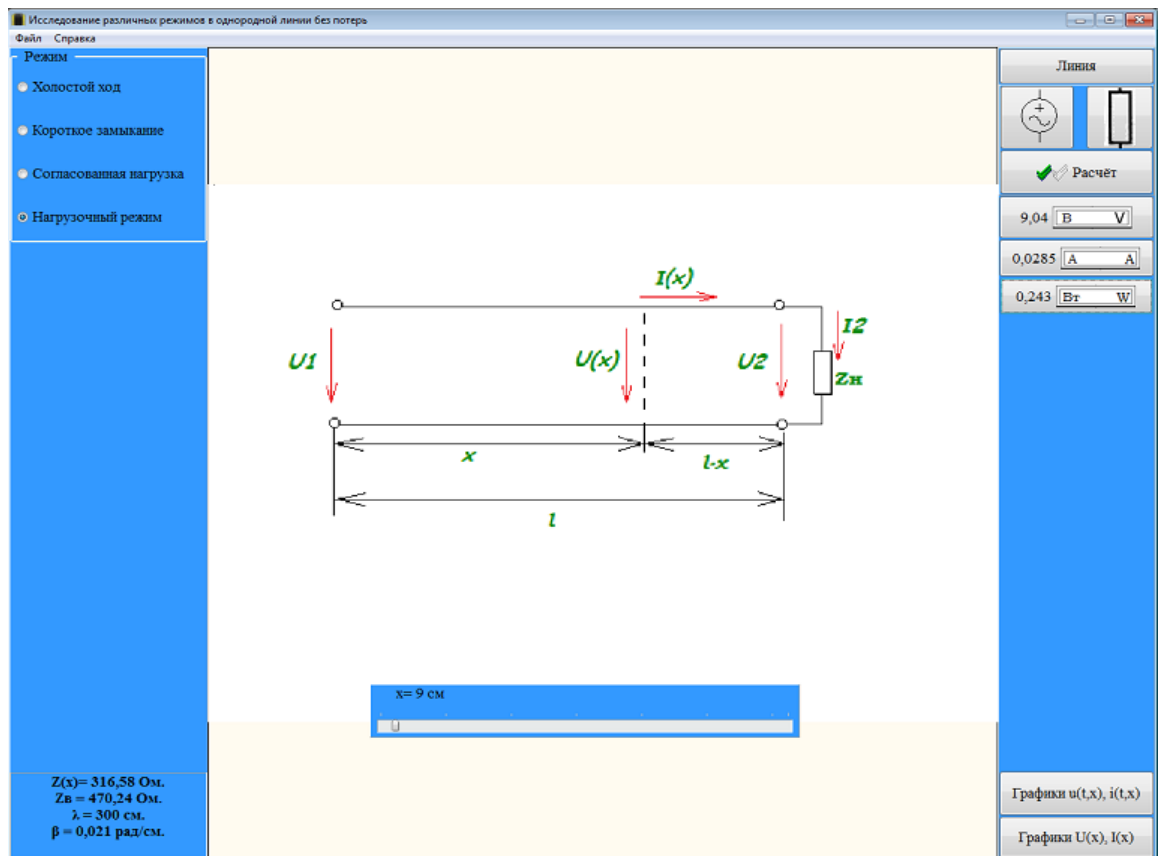

Figure 7.6 – Determination of voltage, current, power and impedance
4. To measure the power, the effective values of voltage and current at different points of the line, set the slider at the desired point of the line and click on the buttons to determine the voltage, current and power in a given section of the line (figure 7.6).